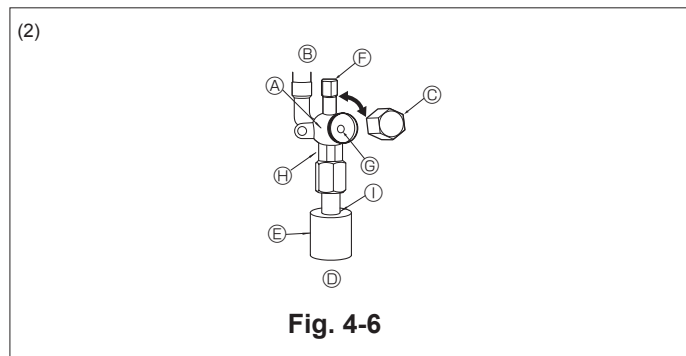

Fig. 4-6
- Liquid side (Fig. 4-6)
- (A) Valve